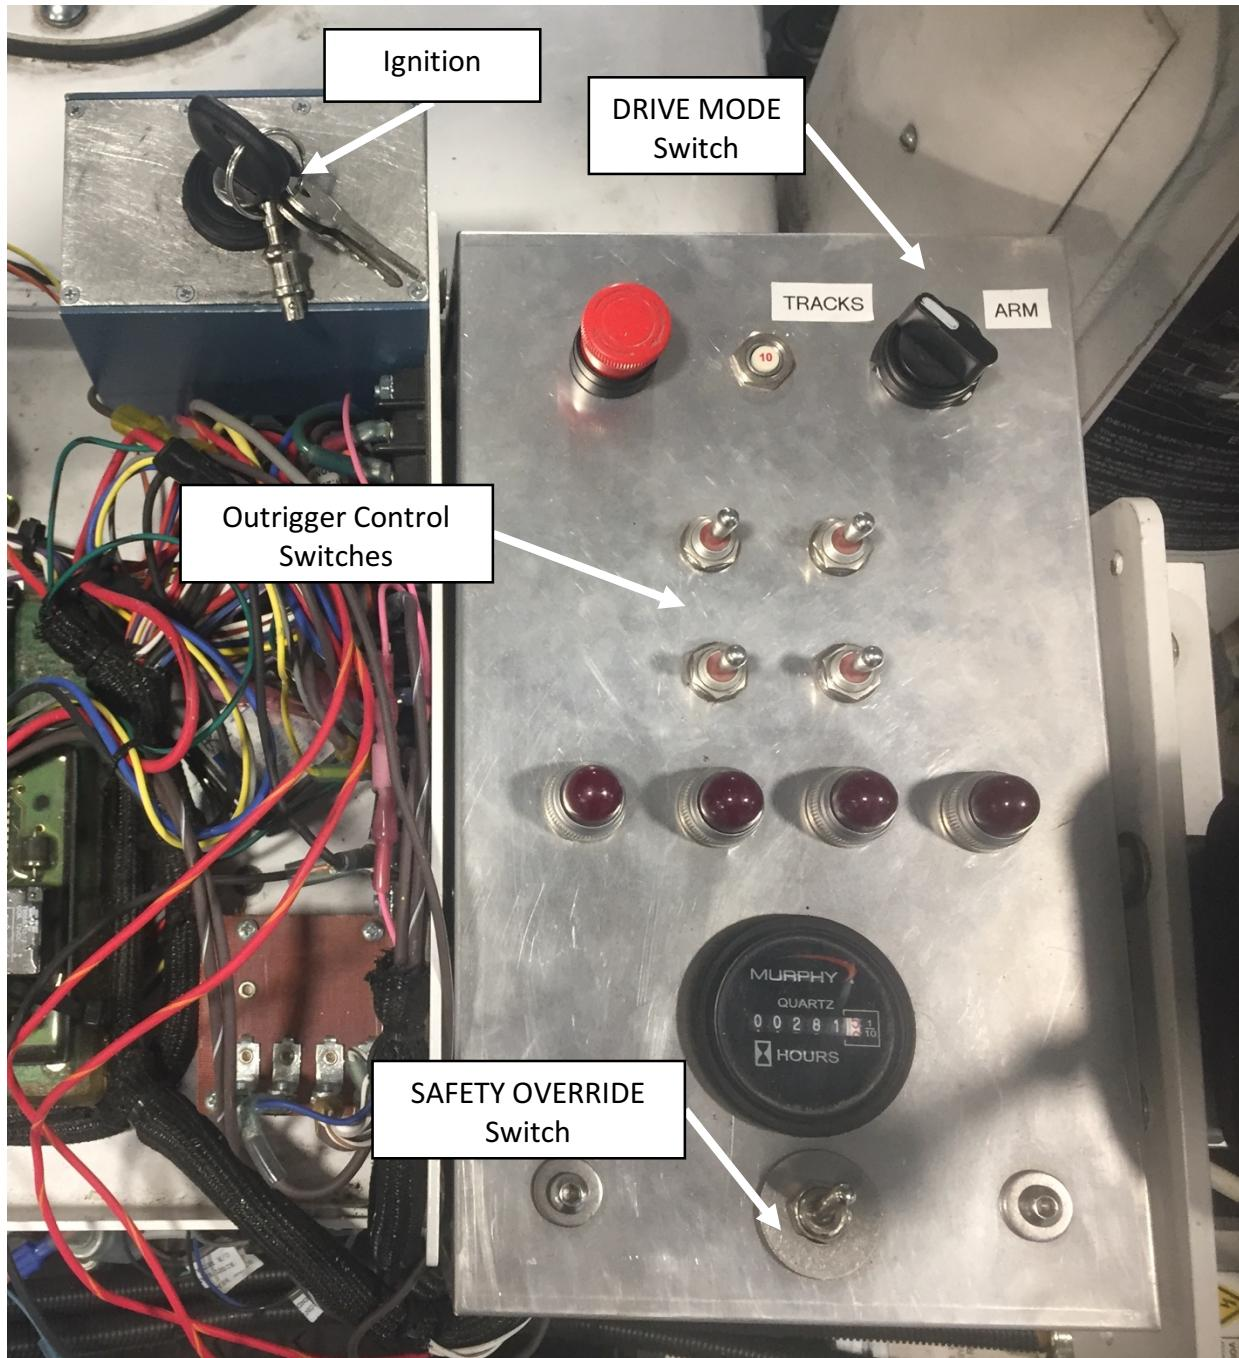

Figure 1: Ignition & Control Panel, AT40GW
- Ignition key is physically prevented from turning to IGNITION position (Fig. 1)
- 3) Turn MODE switch (Fig. 1) to TRACK position, and ensure that SAFETY OVERRIDE switch (Fig. 1) is in UP position.
- 4) Verify that outriggers have been retracted fully. If the outriggers are not retracted fully, use the outrigger control switches (Fig. 1) to retract them.
- 2) Turn MODE switch (Fig. 1) to TRACK position, and ensure that SAFETY OVERRIDE switch (Fig. 1) is in UP position.
- 5) Extend outriggers using the outrigger control switches (Fig. 1). Extend outriggers until vehicle is lifted fully off the ground, and leveled (use indicators on side of vehicle).
- a) **WARNING: When the override switch (Fig. 1) is enabled, the boom may be operated without the outriggers being extended. This is permissible for a limited range of motions, particularly those where the boom stays centered over the vehicle. However, the boom should NEVER be operated without outriggers extended if the J1 axis is**
- 6) Turn MODE switch (Fig. 1) to ARM position.